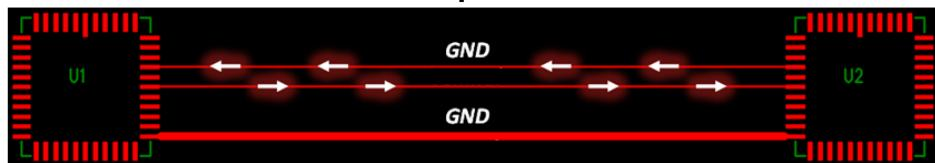

Fig. 5.5 Currents return on the path of least impedance
All currents return to the source that generated them through the ground connection (DC) and also through the voltage supply connection (AC). The return path is always the path of least impedance, which in DC means „least resistance” and in AC means „least inductance”. The resistance is determined mainly by the width of the return trace and the inductance mainly by the signal-reference loop area. Figure 5.5 illustrates the return paths in AC and DC.